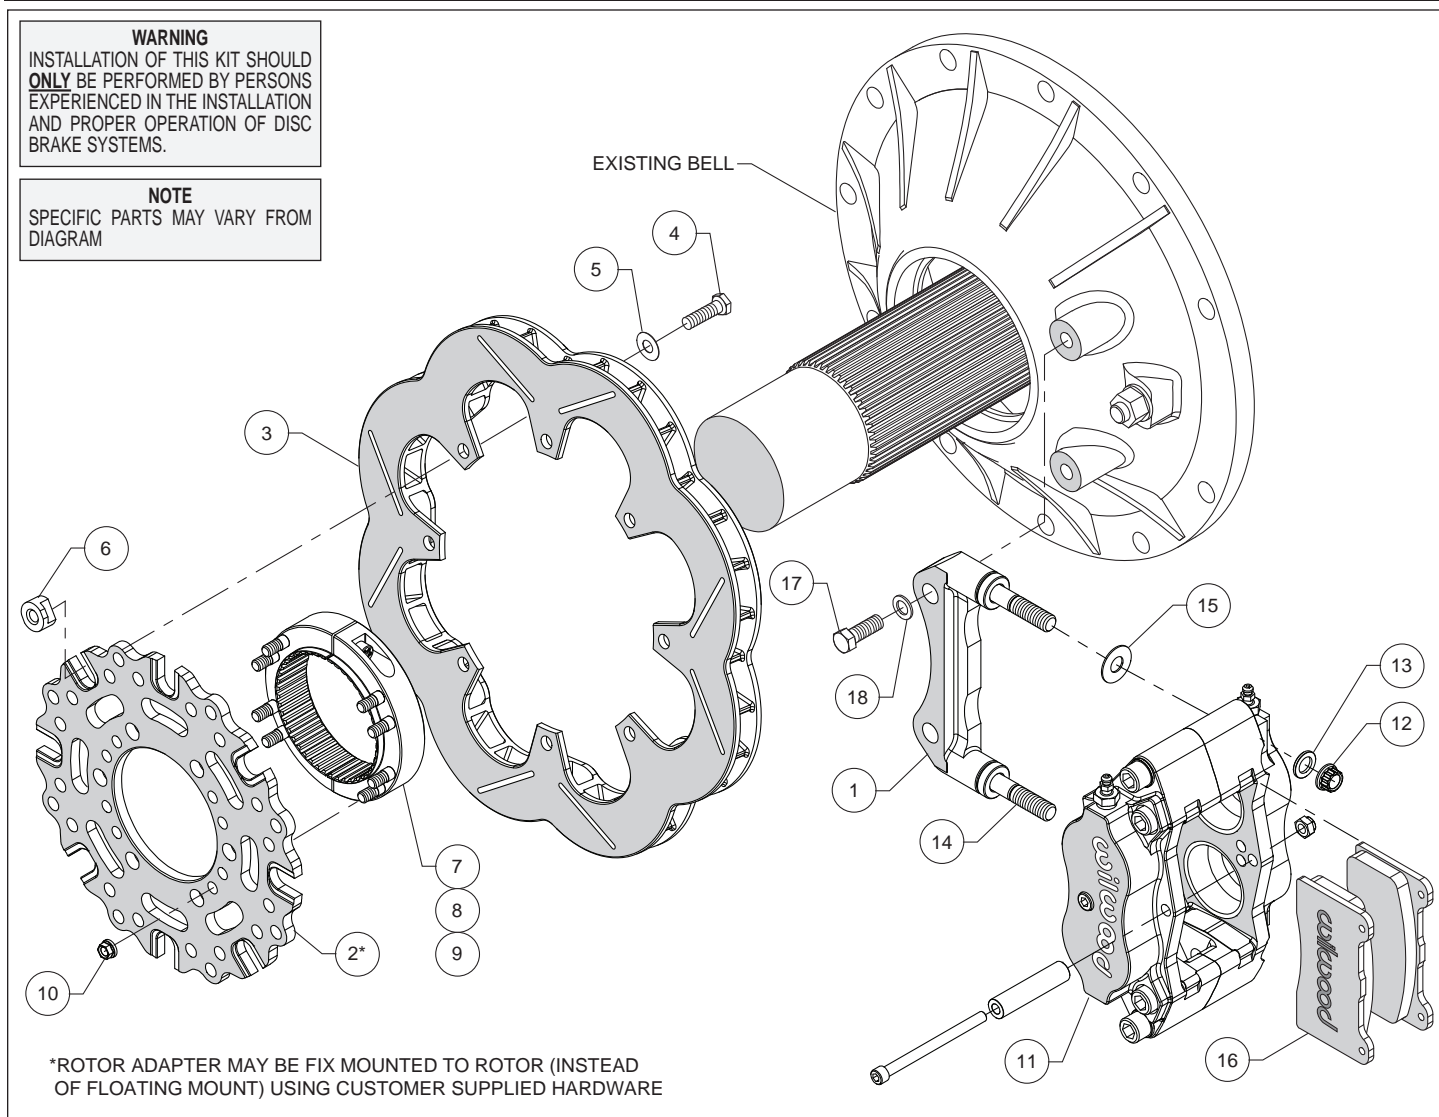

Figure 1. Typical Installation Configuration
- Orient the caliper mount bracket (1) as shown in Figure 1 and install using bolts (17) and washers (18). Temporarily tighten the mounting bolts. **NOTE: The bracket must fit squarely against the mount bosses on the bell.** Inspect for interference from casting irregularities, machining ridges, burrs, etc. Remove the bracket mounting bolts one at a time, apply red *Loctite*® 271 to the threads, and torque to 60 ft-lb.
- Orient the rotor adapter (2) and the rotor (3), as shown in Figure 1, and attach using bolts (4), washers (5), and t-nuts (6), Figure 1. Apply red *Loctite*® 271 to the bolt threads before installing. Finger tighten. After all t-nuts have been installed, torque bolts in an alternating sequence to 220 **in-lbs**. Please refer to Wilwood's data sheet DS-669 (available at www.wilwood.com/Pdf/DataSheets/ds669.pdf) for complete t-nut bolt kit installation instructions. **NOTE: Rotor adapter may be fix mounted to rotor (instead of floating mount) using customer supplied hardware.**
- Orient the axle clamp assembly (7, 8 and 9, pre-assembled) as shown in Figure 1 and install onto the rotor adapter (2) using nuts (10). Tighten nuts part way while still allowing clamp-to-rotor movement. The nuts will be final tightened later, after aligning the rotor. **NOTE:** The axle clamp should be positioned inside of the rotor as shown in Figure 1, not offset, or outside of the rotor adapter.
- Lubricate the caliper mounting studs (14) with lightweight oil. Initially place one .030" thick shim (15) on each stud as shown in Figure 1. Mount the caliper (11) onto the bracket (1) using lock nuts (12) and washers (13), Figure 1. Temporarily tighten the lock nuts and view the rotor through the top opening of the caliper. The rotor should be centered in the caliper. If not, slide the rotor/adapter assembly on the axle until the rotor is centered in the caliper. Tighten the clamp bolts (9) first, locking the clamp to the axle. Torque nuts (10) to 140 in-lbs.
- Remove the caliper center bridge pad retainer bolt, nut, and tube from the caliper. Insert the brake pads (16) into the caliper, with the friction material facing the rotor. Check that the top of the brake pad is flush with the outside diameter of the rotor. If not, adjust by adding or subtracting shims (15) between the caliper and the bracket. After the caliper pad height is set, torque the caliper lock nuts (12) to 30 ft-lb. Secure the brake pads in place with the center bridge pad retainer tube, bolt, and locknut. The locknut should be snug without play in the bolt or tube. Be cautious not to over tighten.